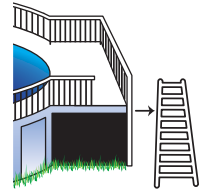

Figure 8b
- (a) **the ladder** to the pool or steps should be capable of being secured, locked or removed to prevent access (figure 8b), or